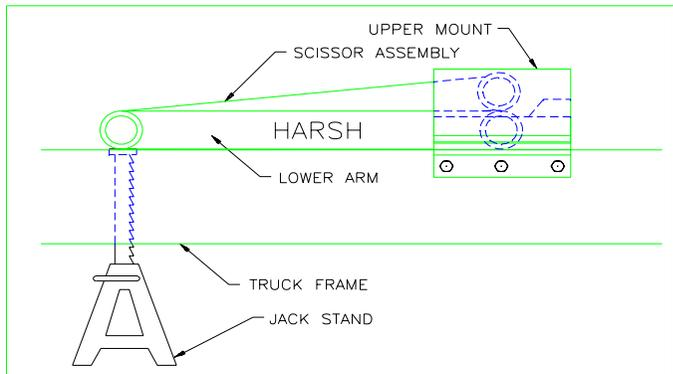

Figure 9: Jack Stand Placement
7. Insert the top hoist mounts into the hoist frame in the same way in which they were shipped. Set the lower arm of the scissor assembly parallel to the truck frame. This can be done using a jack stand (see Figure 9).